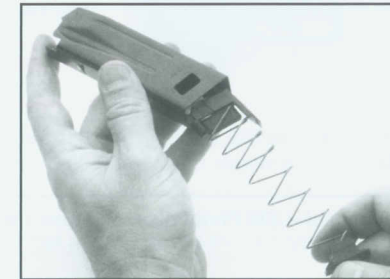

Figure 14
2. Insert the follower and magazine spring into the magazine housing as depicted in Figure 14.